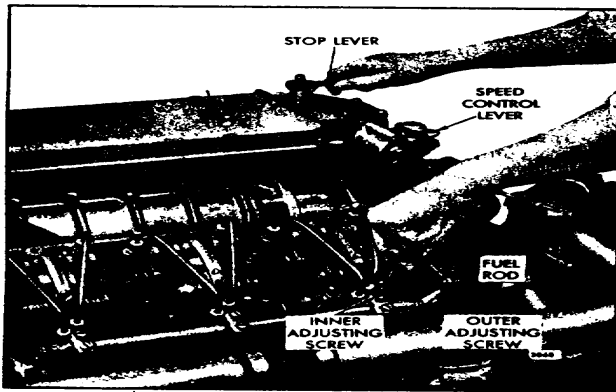

Fig. 3 - Positioning No. 3L Injector Rack Control Lever
4. Move the stop lever to the run position and hold it in that position with light finger pressure. Turn the inner adjusting screw of the No. 3L injector rack control lever down (Fig. 3) until a slight movement of the control tube is observed, or a step-up in effort to turn the screw driver is noted. This will place the No. 3L injector rack in the full-fuel position. Turn the outer adjusting screw down until it bottoms lightly on